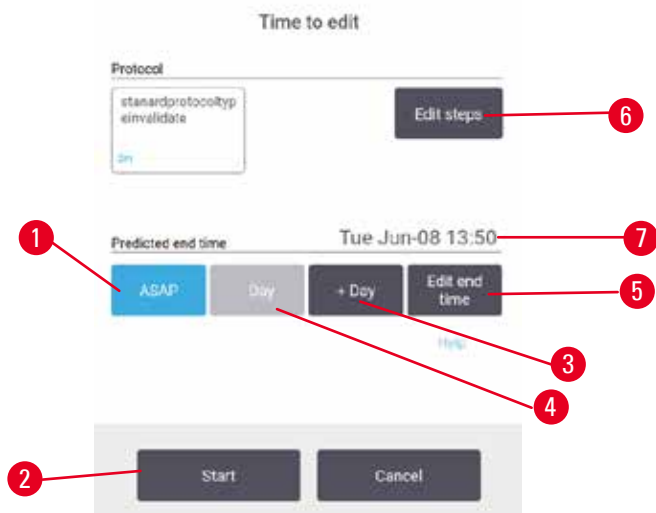
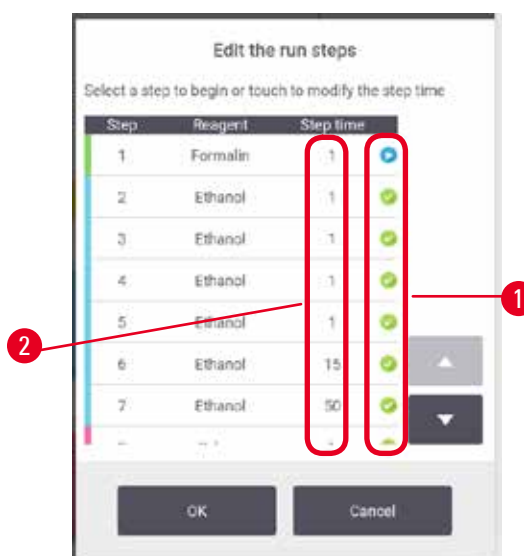

Fig. 53
Fig. 55
You schedule a protocol run in the **Time to edit** dialog box (→ Fig. 53). The dialog box opens after you have loaded the protocol, input baskets ID, and input the number of cassettes (→ p. 80 – 5.5.2 Changing the starting step for a single run).
1. Start a protocol run as normal from the **Status** screen and continue until the **Time to edit** dialog box (→ Fig. 53) opens. Tap **Edit steps** (→ Fig. 53-6) to open the **Edit the run steps** dialog box (→ Fig. 55).